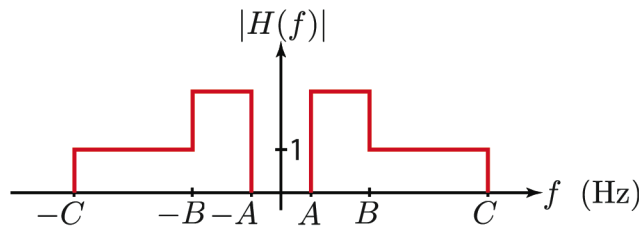
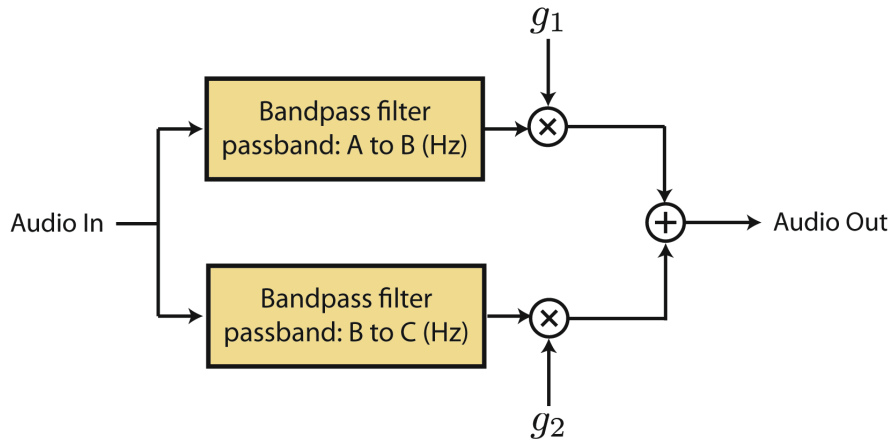

Figure 1: Magnitude Response of Ideal Filter (for Continuous-time Signals) for Bass Boost (2-band Adjustable)
Figure 2: Implementation of Equalizer of Figure 1 using Superposition.
You've already implemented digital filters in the past labs. From your experience, it should not be difficult to imagine how you might boost the bass of your audio system. Figure 1 presents an ideal design for boosting the bass of continuous-time audio signals. Like in the past labs, you have to create a practical *digital* filter that mimics Figure 1. You can do this in many ways. For example, you can design the practical filters for continuous-time signals first, and then use the bilinear transform to obtain the discrete-time filter.
In Figure 1, cutoff frequency A (Hz) is used because the human auditory system has limited dynamic range. That is, the human ear cannot pick out frequencies lower than A (Hz), unless you have snake ears. Similarly cutoff frequency C (Hz) characterizes the highest pitch perceivable to humans – again unless you have the ears of a dog or bat, you don't need to pass higher frequencies. The lower frequency band from A to B (Hz) characterizes the bass part of the audio signal. Note that the gain in this region is greater than 1 (or greater than 0-dB), which means you are boosting this part of the band, i.e. the bass. On the other hand, the band from B to C (Hz) has a gain of 1 (or 0-dB), which means you're passing the audio signal in this band as is. If you wish to turn down the non-bass part of the audio stream (like a lot of people do when they are cruising), the gain would be less than 1 (or negative-dB) in this region.
Figure 1 can be interpreted as consisting of *two bandpass* filters. The first bandpass filter is the A to B (Hz) band, while the second bandpass filter is the B to C (Hz) band. In practice, non-ideal bandpass filters used in tandem may *bleed* into one another, which is all right for audio signals, as the human ear may not perceive this. Since you are dealing with linear systems, you can use the principle of superposition to process each of the regions separately, and then recombine them as show in Figure 2.
In Figure 2, the audio signal is filtered using two bandpass filters, and the gain on each filter is then adjusted using g_1 and g_2 . For example, in our previous bass boost example, we might have $g_1 = 3$, and $g_2 = 1$, giving the bass 3 times more power, while keeping the rest of the frequencies the same. A more advanced audio equalizer would have a number of bandpass filters focusing on disjoint frequency bands, for example partitioning the band more finely (i.e., with higher “granularity”) to allow more control to the user. For this lab, you will be controlling 5 bands.
5. Using the basic superposition structure shown in Figure 2, implement your equalizer in the Simulink model. Nominally, you should use either gain blocks from Simulink \rightarrow Math Operations or dB Gain blocks from Signal Processing Blockset \rightarrow Math Functions \rightarrow Math Operations as the multiplication factor for each band. For now, set the gain of your block so that it is equivalent to a unity gain.